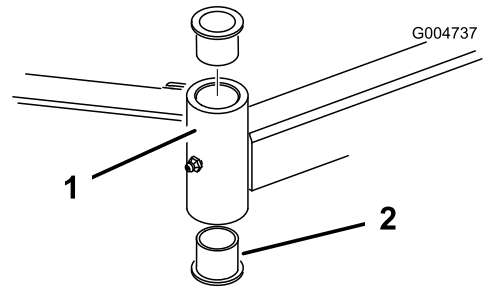

Figure 87
4. Insert a pin punch into the top or bottom of the mounting tube and drive the bushing out of the tube (Figure 87). Also drive the other bushing out of the tube. Clean the inside of the tubes to remove dirt.